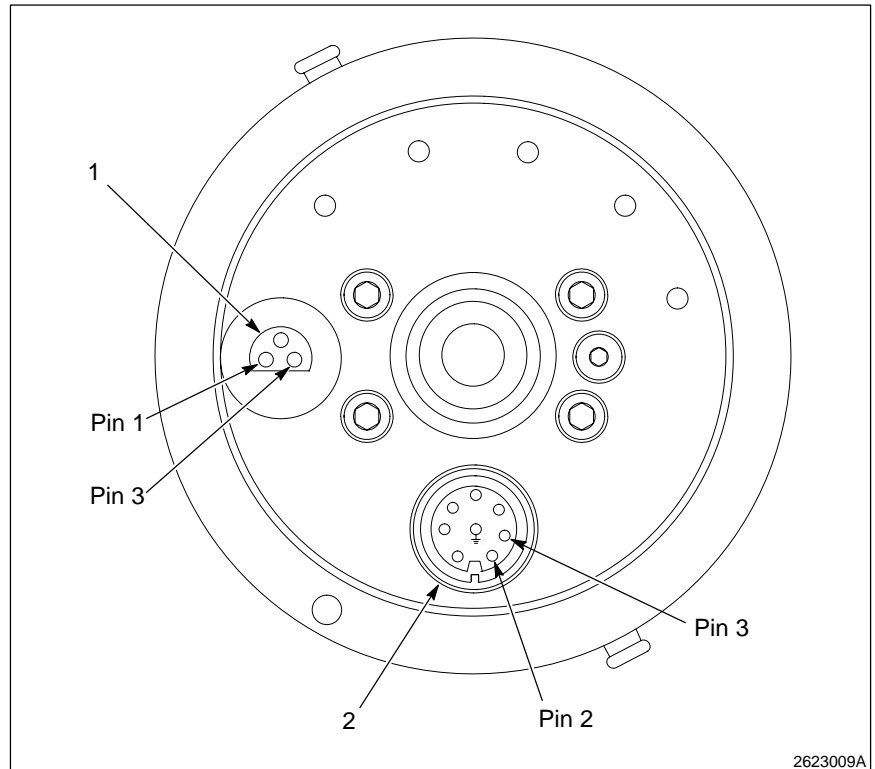

Fig. 6-1 Powder bell mount end view
1. See Figure 6-1 and refer to Table 6-1. Remove the powder bell from its mount and measure the voltage at the multiplier cable connector (1). With the kV set point at maximum, the voltage across pins 1 and 3 should measure approximately 21 Vdc.
4. See Figure 6-1. With the speed controller still in manual mode and 100% output, measure the voltage at the powder bell end of the motor power cable. The voltage across pins 2 and 3 should measure approximately 27.5 Vdc.